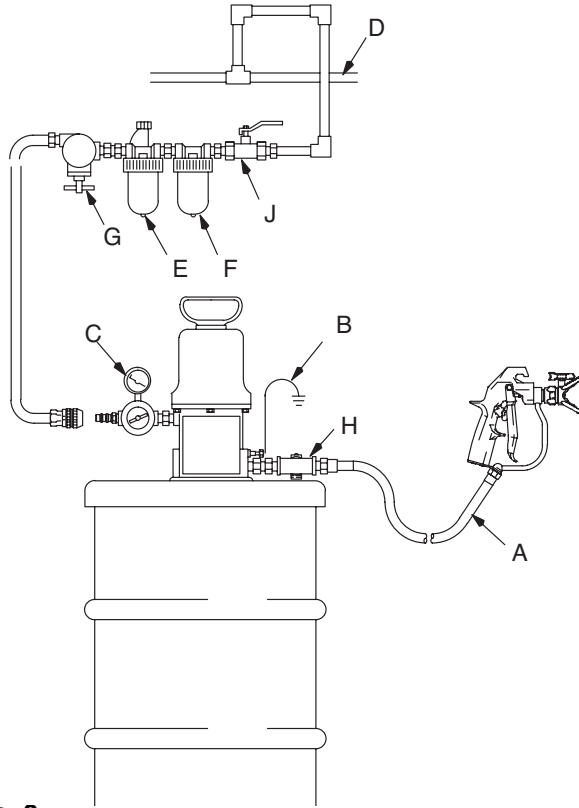

FIG. 2
**NOTE:** Install the air line accessories in the order shown in FIG. 2.
1. Install a pump runaway valve (G) to shut off the air to the pump if the pump accelerates beyond the pre-adjusted setting. A pump that runs too fast can be seriously damaged.
2. Install an air line lubricator (F) for automatic air motor lubrication.
3. Install the air regulator (C) to control pump speed and pressure.
4. On the main air supply line from the compressor, install an air line filter (E) to remove harmful dirt and contaminants from your compressed air supply.